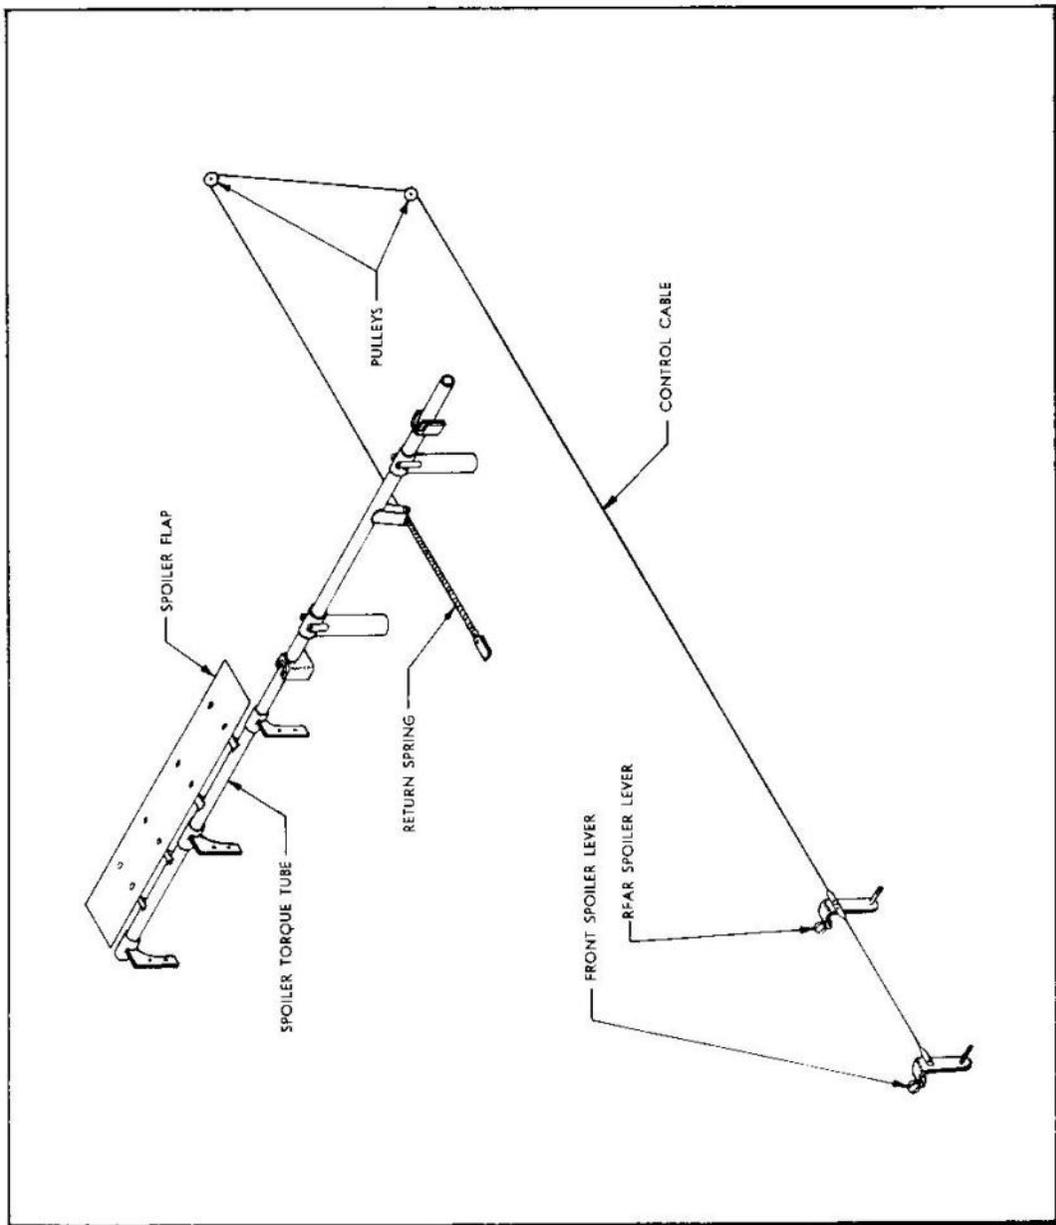

Figure 21 - Spoiler Controls Diagram
e. The spoilers are operated by cables connected to a spoiler torque tube and a spoiler return spring. (See figure 21.)